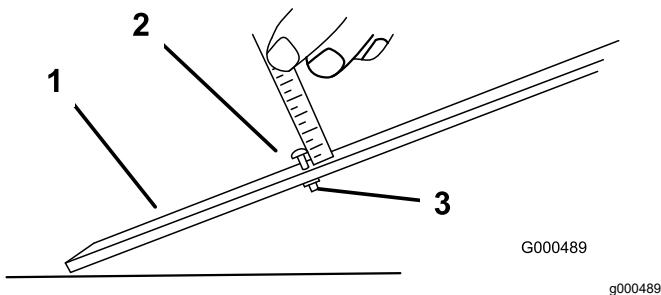

Figure 13
1. Loosen the nut on the gauge bar and set the adjusting bolt to the desired height of cut (Figure 13).